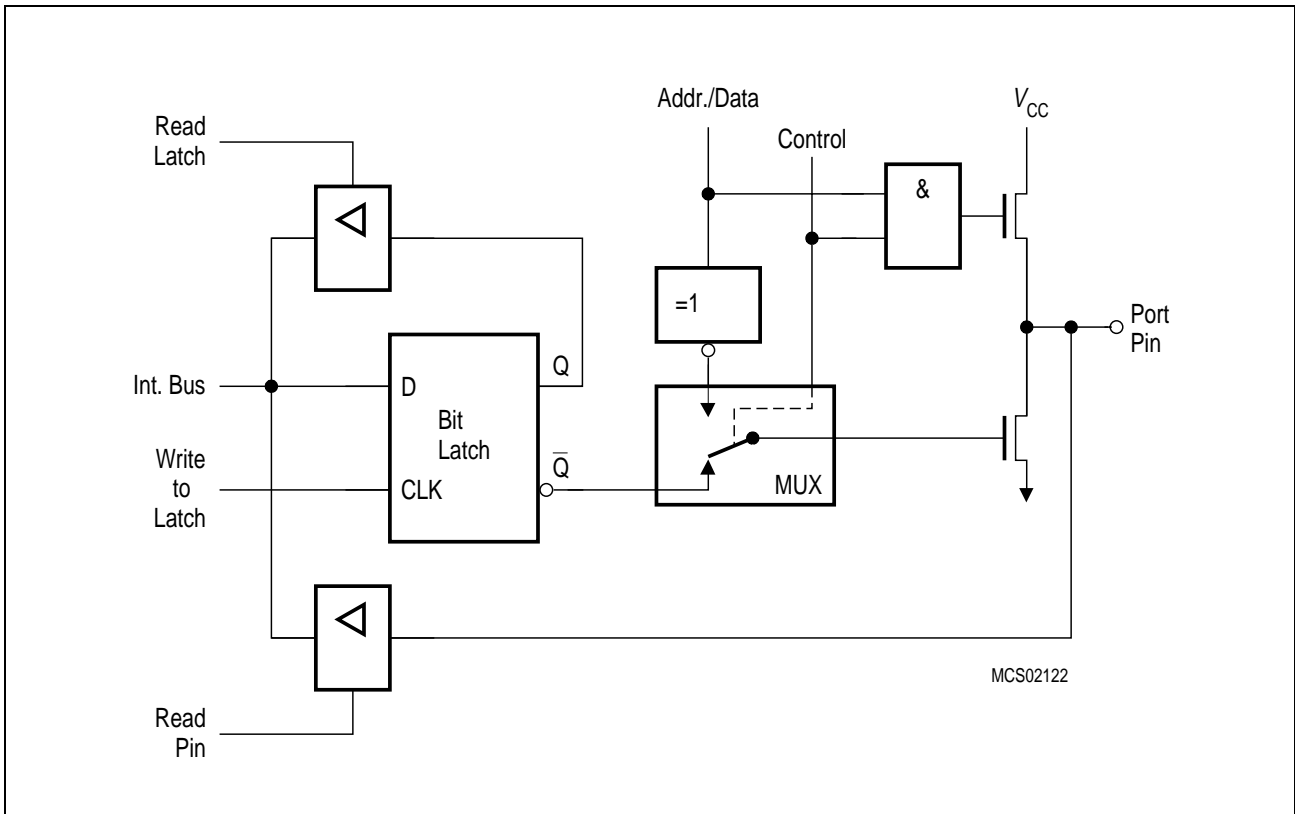
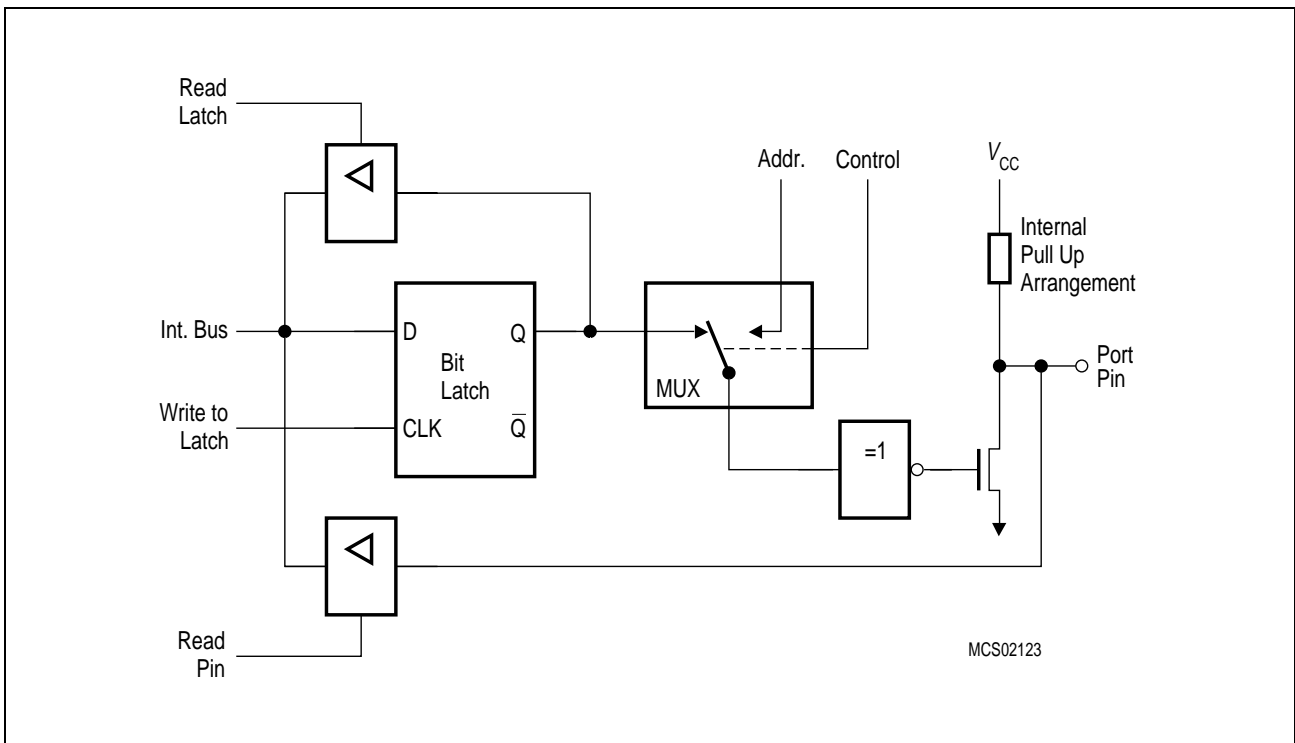

Figure 6-7
Figure 6-8
Port 0, in contrast to ports 1, 2 and 3, is considered as “true” bidirectional, because the port 0 pins float when configured as inputs. Thus, this port differs in not having internal pullups. The pullup FET in the P0 output driver (see **figure 6-7**) is used only when the port is emitting 1s during the external memory accesses. Otherwise, the pullup is always off. Consequently, P0 lines that are used as output port lines are open drain lines. Writing a “1” to the port latch leaves both output FETs off and the pin floats. In that condition it can be used as high-impedance input. If port 0 is configured as general I/O port and has to emit logic high-level (1), external pullups are required.
As shown in figure 6-7 and below in figure 6-8, the output drivers of ports 0 and 2 can be switched to an internal address or address/data bus for use in external memory accesses. In this application they cannot be used as general purpose I/O, even if not all address lines are used externally. The switching is done by an internal control signal dependent on the input level at the \overline{EA} pin and/or the contents of the program counter. If the ports are configured as an address/data bus, the port latches are disconnected from the driver circuit. During this time, the P2 SFR remains unchanged while the P0 SFR has 1's written to it. Being an address/data bus, port 0 uses a pullup FET as shown in figure 6-7. When a 16-bit address is used, port 2 uses the additional strong pullups p1 to emit 1's for the entire external memory cycle instead of the weak ones (p2 and p3) used during normal port activity.